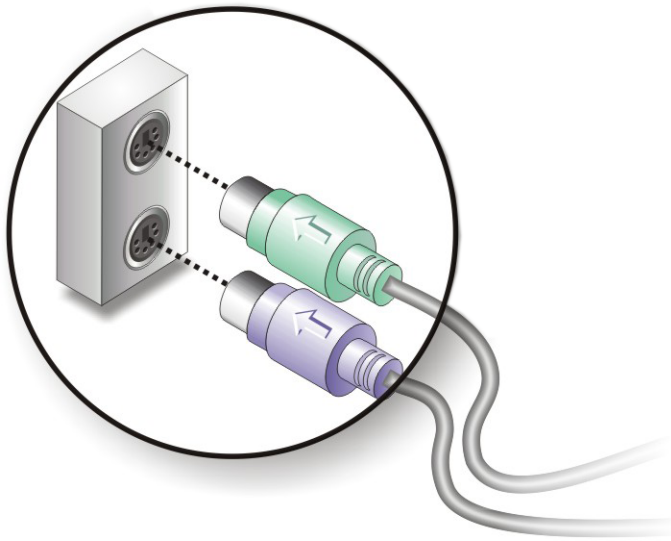

Figure 5-20: PS/2 Keyboard/Mouse Connector
Step 2: Insert the keyboard/mouse connector. Insert a PS/2 keyboard or mouse connector into the appropriate PS/2 connector on the external peripheral interface connector. See **Figure 5-20**.